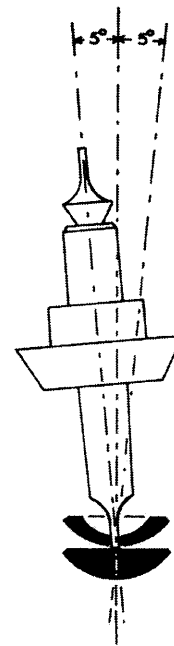

Fig. 15-14
7. Figure 15-14 illustrates another way to test the pivots for size. This test and all of the previous tests should be made before riveting the staff to the wheel. The pivot should enter the hole in the jewel and tip approximately 5 degrees to either side to allow the proper amount of sideshake. If the pivot is too large it will not tip from side to side and if it tips too far over, the pivot is too small for the hole in the jewel.